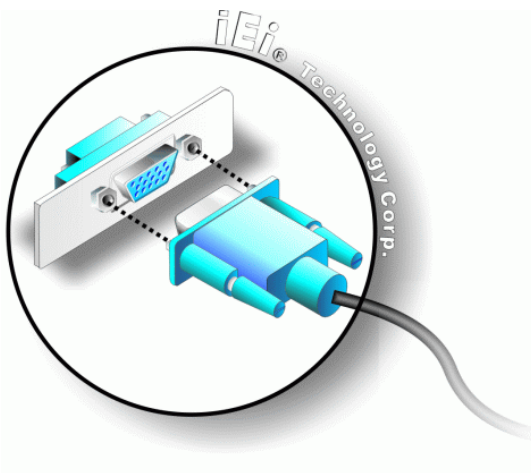

Figure 5-22: VGA Connector
Step 8: Insert the VGA connector. Insert the DB-15 connector of a VGA monitor into the DB-15 connector on the external peripheral interface. See **Figure 5-22**.